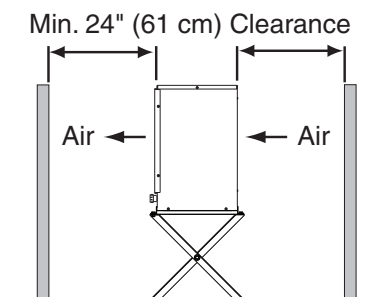

Fig. 10
- A dry and well ventilated area with 24" (61 cm) clearance at front and rear for proper air circulation and ease of maintenance and/or service should they be required. See Fig. 10.